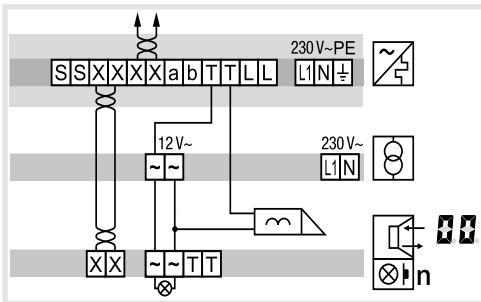

Figure 9: Connection of door station with manipulation-protected door release
- For manipulation-protected installation, connect the door release to the contact of the line power supply (Figure 9).